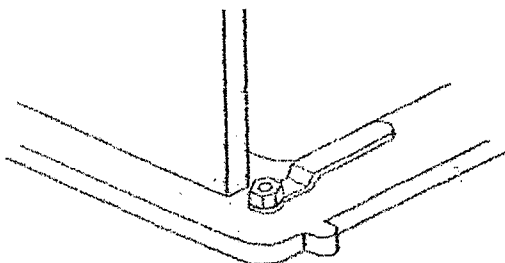

Fig 3
3. Turn the red handles at the front of the unit so that they face inward (see Fig 3)